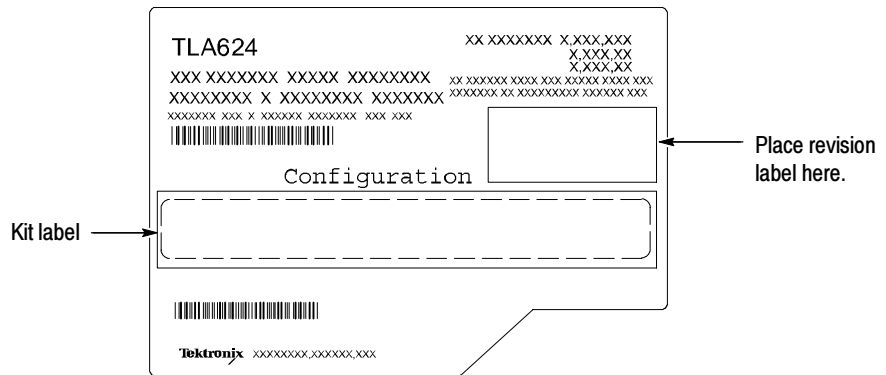
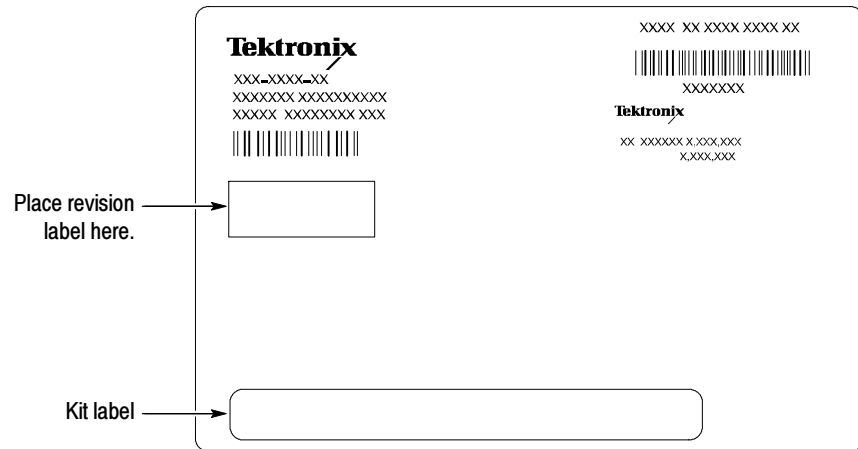

Figure 3: TLA5000 or TLA600 revision and kit label locations
Figure 4: TLA700 revision and kit label locations
Locate the big label on the rear of the instrument, and then attach the software revision label and the kit label as shown in Figure 3 for TLA5000 series instruments or TLA600 series instruments. For TLA700 Portable Mainframes, see Figure 4 on page 20.
4. Locate the big label on the side of the controller and attach the software revision label and the kit label as shown in Figure 4.